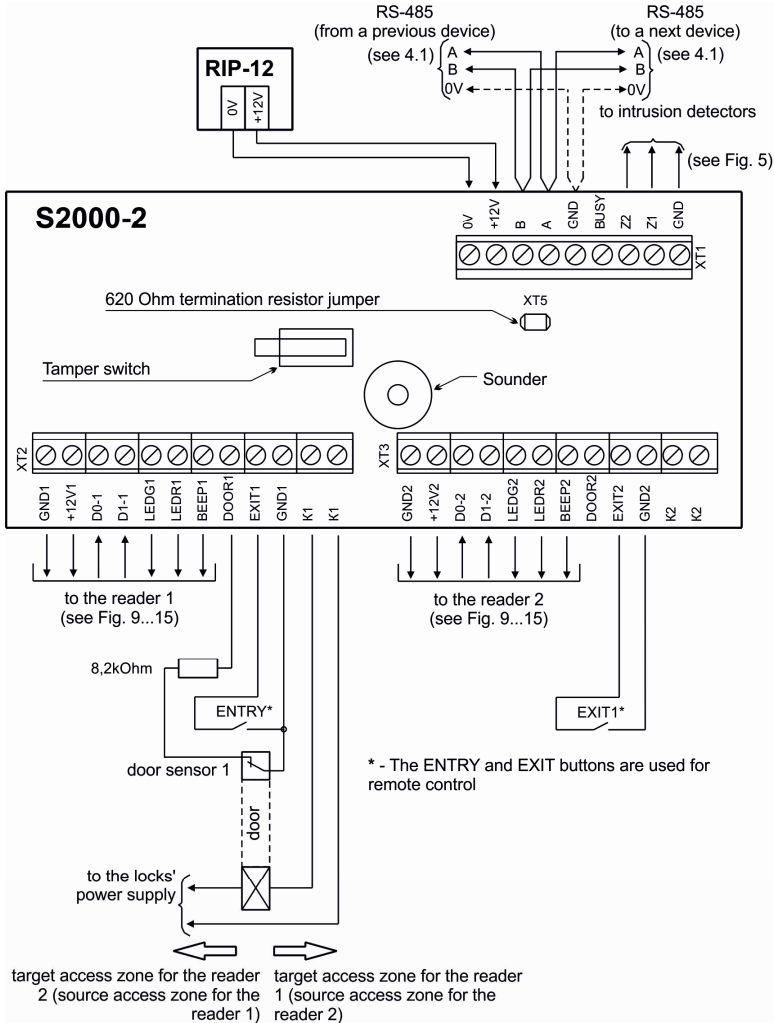

Figure 18. Wiring the S2000-2 for One Entrance/Exit Door Operation Mode
4.8.1 Connect the lock control circuits and passage sensor to the controller terminals with "1" at the end of their designation (see Figure 18). The second relay can be operated over the RS-485 interface by remote commands of the S2000(M) panel or the PC.